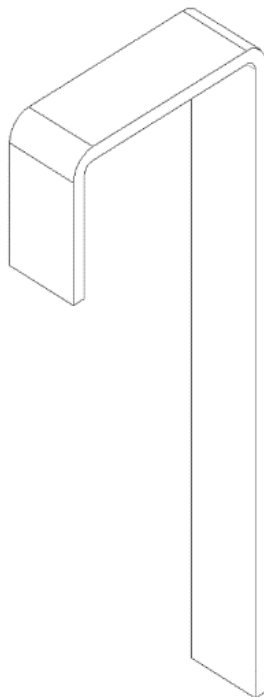
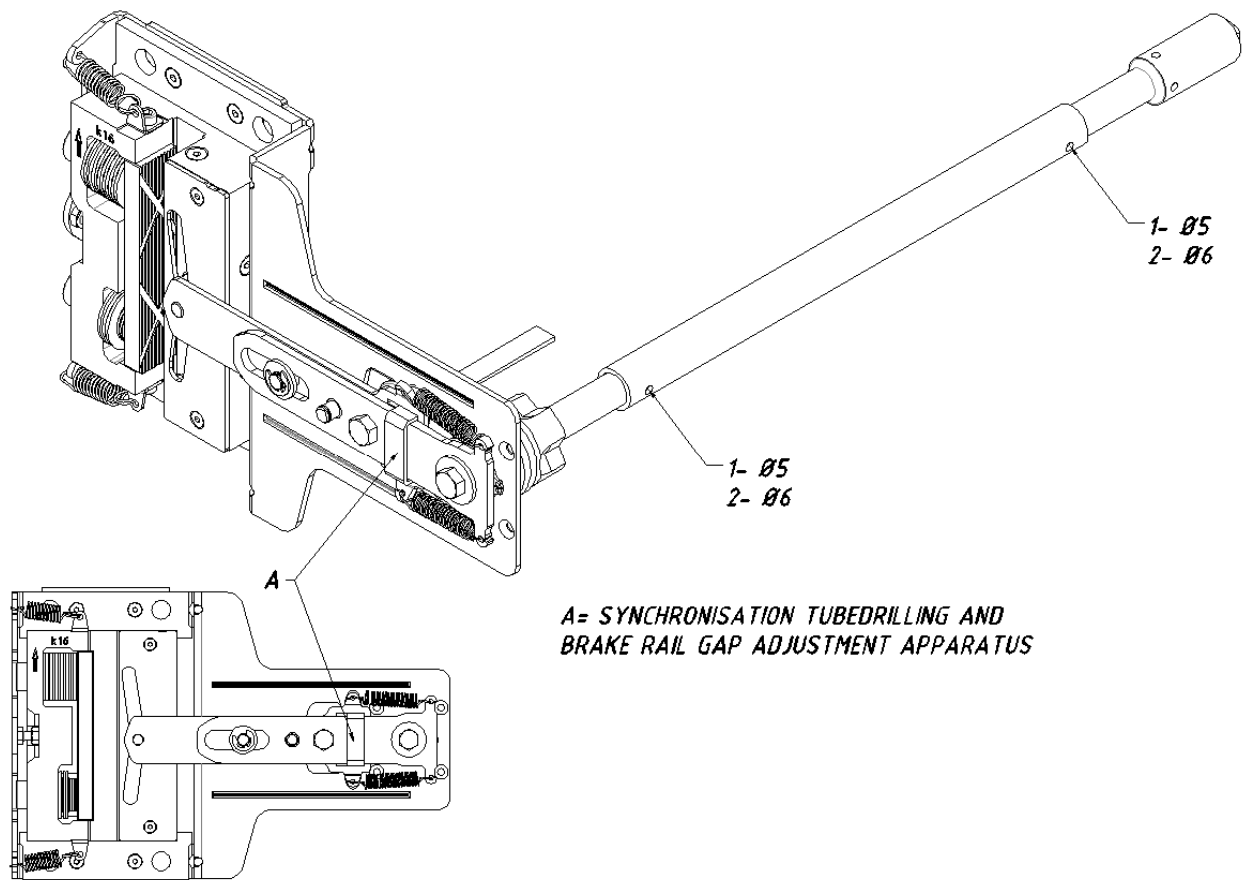

FIGURE 7
FIGURE 8
- 4- Center the tube by mounting it to the safety gear lever shafts. Ensure that the tube is mounted equally on both safety gear lever shafts. Insert the two twisted-pair plates (Figure 7) with the twist-off synchronization tube drill and the rail gap adjustment apparatus from the safety gear box as shown in the illustration (Figure
5- This will ensure that the safety gear levers remain in the correct position when drilling through the synchronization tube pin holes and prevent it from playing during the drilling process. (Figure 8)
In order to make the adjustment process easier, our company provided a U-shaped spacer shown in Figure 7 and indicated by A in Figure 8. This spacer is also used by the elevator car manufacturer in the process of drilling the synchronization tube and installing the pin. (Figure 7)